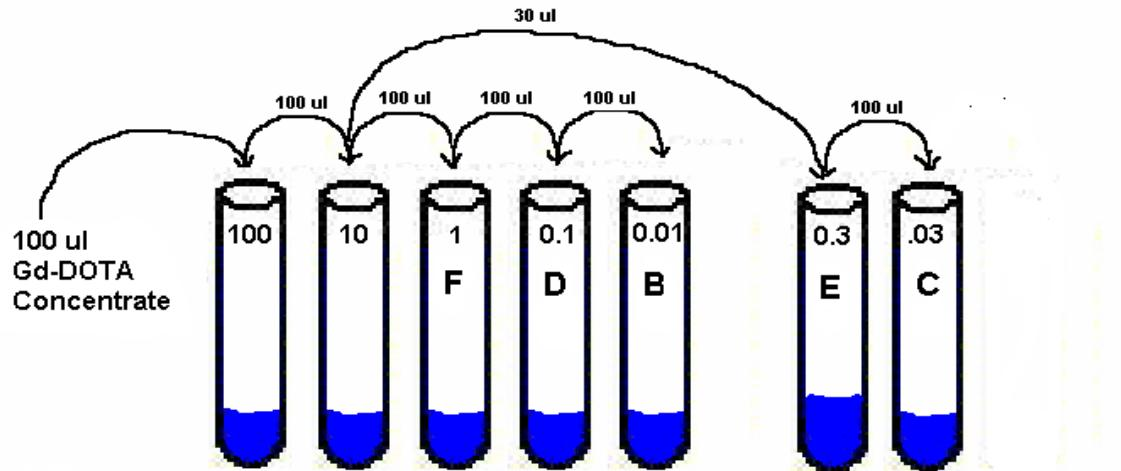

Figure 1: Schematic representation of Standard Curve preparation
1. Refer to Figure 1 for schematic. Set up five glass culture tubes in a row, leave a space, then two more glass culture tubes in a row.